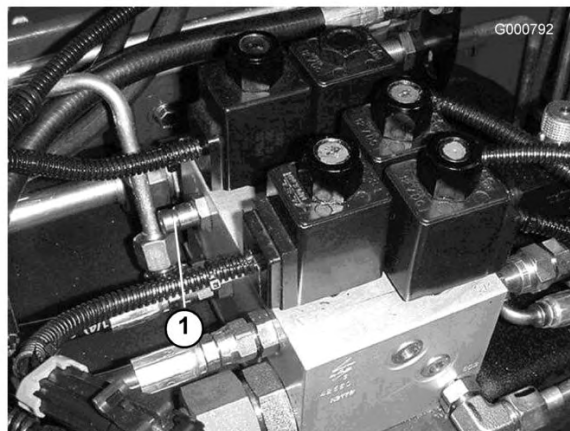
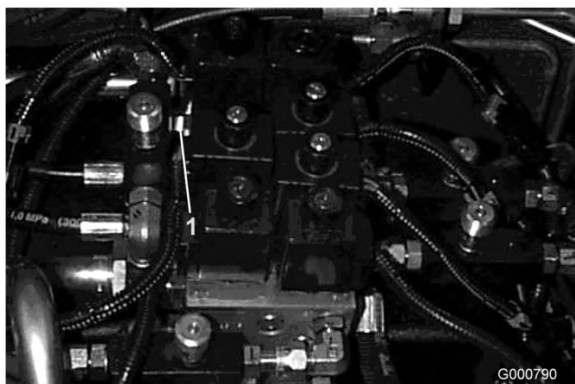

Figure 81
Figure 80
1. Test Port A (Figure 80 and Figure 81) is used to assist in trouble shooting the hydraulic circuit for the lift cylinders.